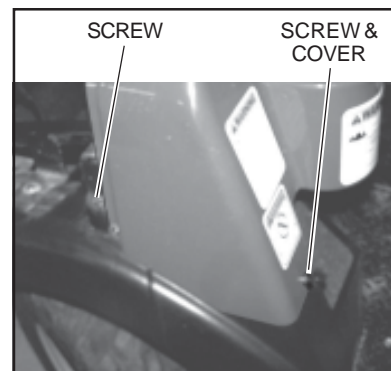

Figure 4
5. Remove eight screws, nuts and six covers securing the dashboard to the frame (Figure 4).
2. Carefully position the dashboard on the frame for installation. Secure with eight capscrews, nuts and six covers (Figure 4). Tighten nuts to general torque specifications.
The hood assembly includes the hood, hood catch, and hinges (Figure 4).